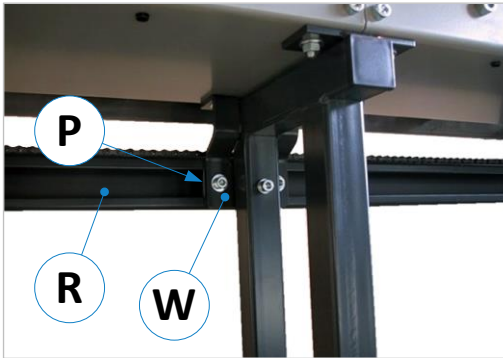
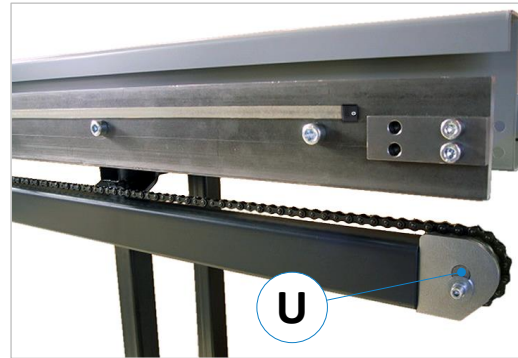

Figure 11: Fitting the chain guide tube
Figure 12: Chain deflection
- **Only EXAKT A:** The chain guide tubes (**R**) are simply pushed over the pre-mounted clamping plates (**P**) on the angle brackets (**W**) – see ⇒ Figure 11 - and then fixed in alignment using hexagon socket screws. The deflection (**U**) for the chain is mounted on the end pieces (see ⇒ Figure 12).